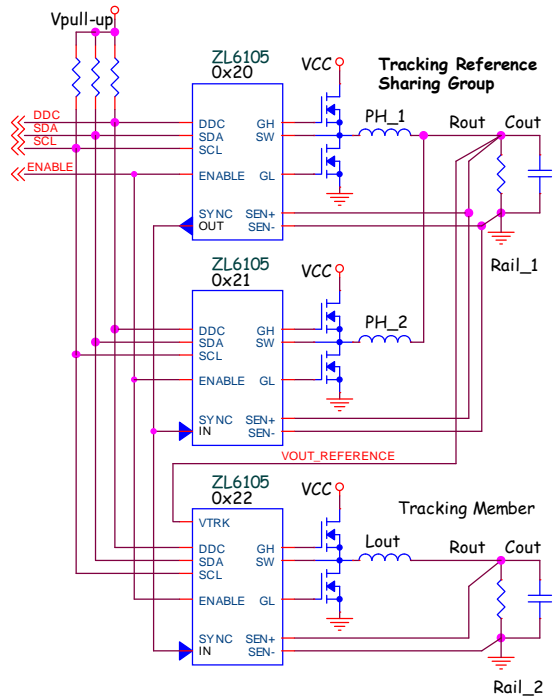

FIGURE 26. SINGLE RAIL TRACKING A CURRENT SHARING GROUP
When the Tracking Reference is comprised of a current sharing group the delay time must be added to the standing current sharing  $t_{\text{OnDly}}$ . Using Figure 26 as an example the non-Tracking timing configuration is shown below in Table 13.
**TABLE 13. NON-TRACKING DELAY TIMING FOR FIGURE 26**
**TABLE 14. TRACKING TIMING FOR FIGURE 26**